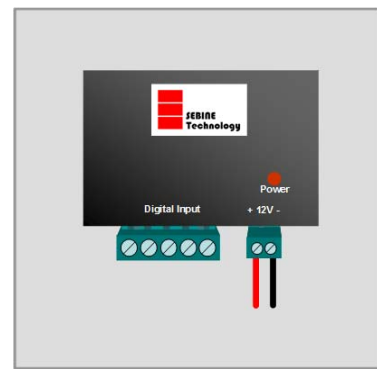

Figure9. Power Supply-3
- As shown in Figure 9, connect the terminal to power port of W410A, Make sure the direction is exact as shown in Figure 9.